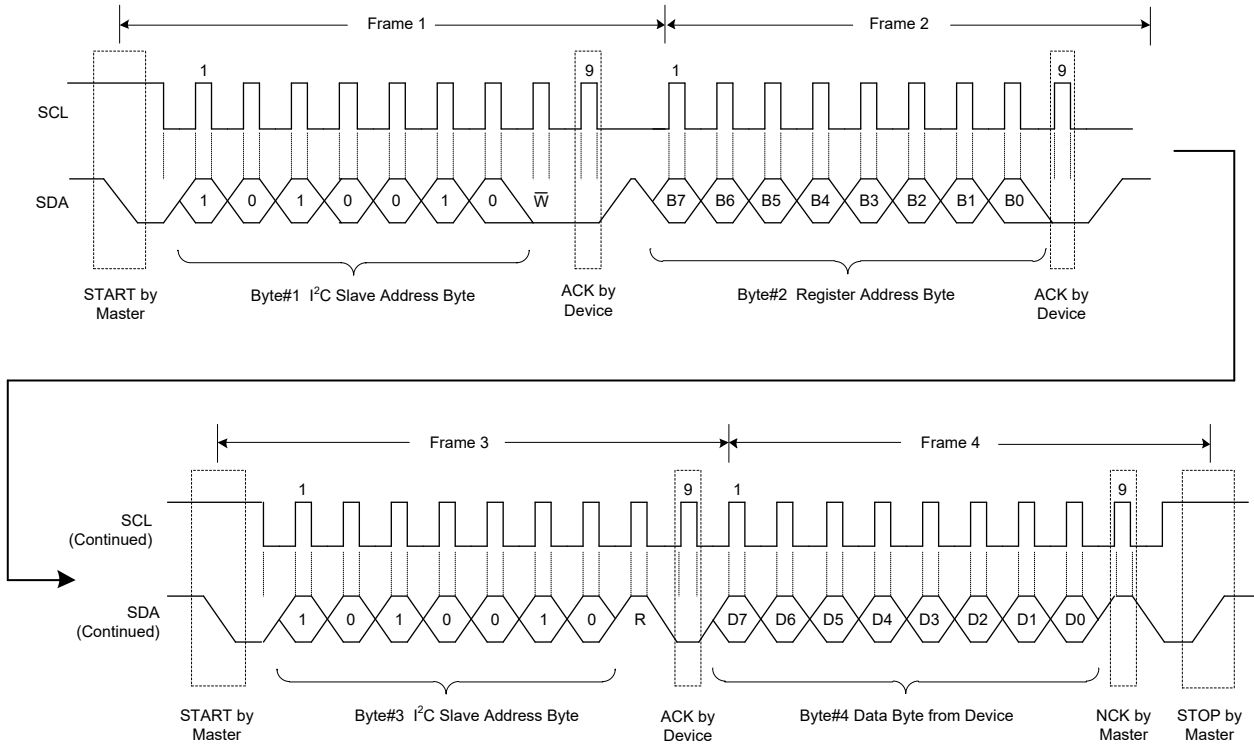

Figure 9. A Single Read Transaction in Standard, Fast and Fast Plus Modes
**READ:** If the master wants to read a single register (Figure 9), it sends a new START condition along with device address with R/W bit = 1. After ACK is received, master reads the SDA line to receive the content of the register. Master replies with NACK to inform slave that no more data is needed (single read) or it can send an ACK to request for sending the next register content (multi-read). This can continue until an NACK is sent by master. A STOP must be sent by master in any case to end the transaction.